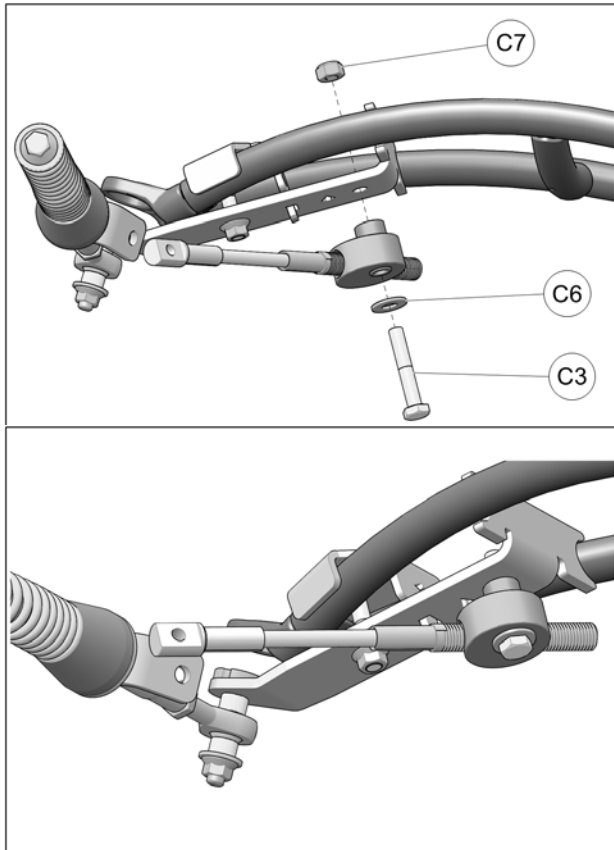

Fig. 25
13. Attach steering limiter cable assembly under anchor bracket using bolt (C3) inserted through bottom, with washer (C6), and nut (C7). Tighten nut to 50 N•m [37 lb•ft]. Refer to Fig. 25